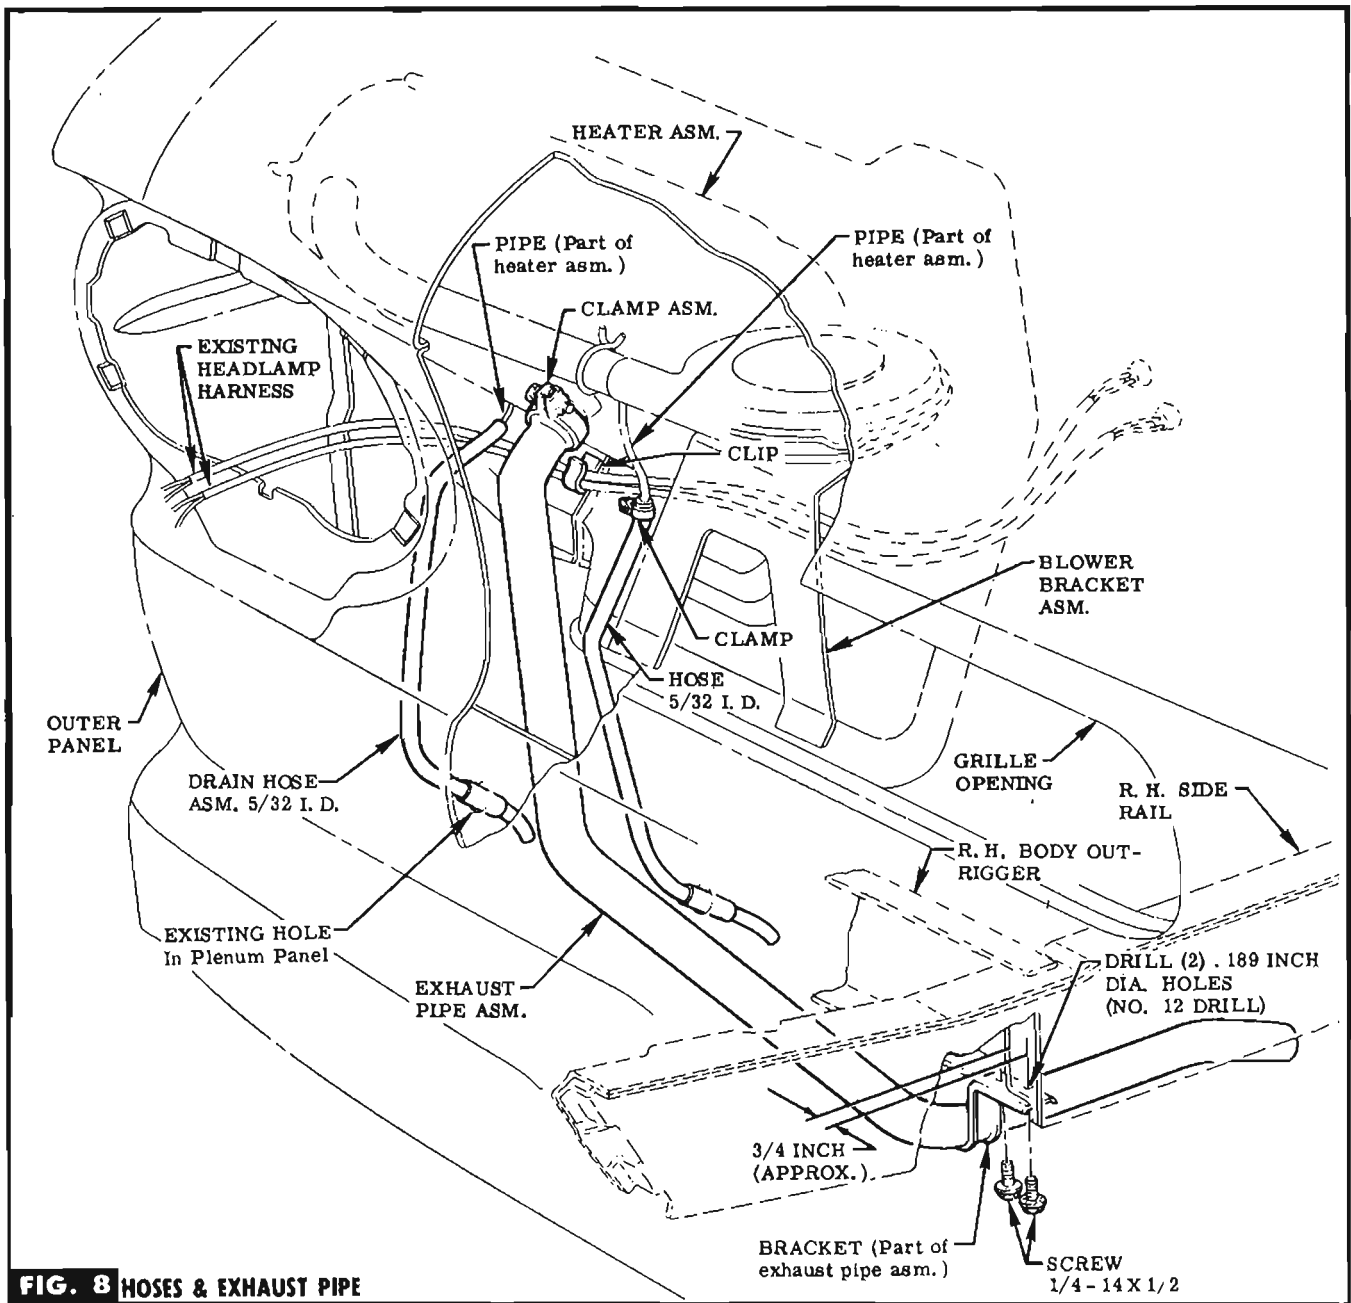

FIG. 8 HOSES & EXHAUST PIPE
STEP 36 INSERT EXHAUST PIPE THRU EXISTING OPENING IN PLENUM PANEL, FIT CLAMP ASM. PROVIDED OVER TOP & SLIDE EXHAUST PIPE OVER HEATER PIPE. SEE FIG. 8.
STEP 37 USING DIMENSIONS SHOWN & PIPE ASM. BRACKET AS A TEMPLATE, CENTER PUNCH & DRILL HOLES IN BODY OUTRIGGER & SIDE RAIL AS SHOWN. SEE FIG. 8.
STEP 38 ATTACH EXHAUST PIPE TO SIDE RAIL USING SCREWS PROVIDED (IN BAG A). SEE FIG. 8.
ING. SEE FIG. 8.
STEP 40 ATTACH GASOLINE FRONT PIPE HOSE TO HEATER PIPE WITH ATTACHING CLAMP PROVIDED (IN BAG C) & ROUTE THRU EXISTING HOLE IN PLENUM PANEL. SEE FIG. 8.
STEP 41 ATTACH DRAIN HOSE TO HEATER PIPE & ROUTE THRU EXISTING HOLE IN PLENUM PANEL. SEE FIG. 8.
STEP 42 INSTALL PREVIOUSLY REMOVED HEADLAMP, ROUTE WIRES & ATTACH TO CLIP ON COVER ASSEMBLY. SEE FIG. 8.